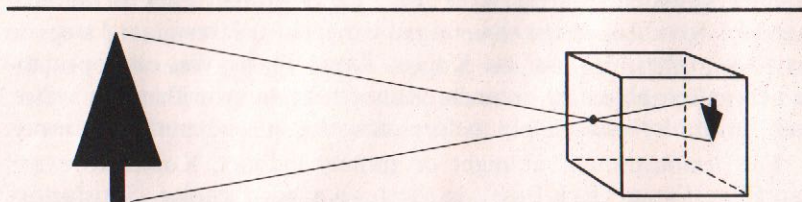

FIGURE 8
A. Light travels in essentially straight lines. Light from a point at the top of the subject goes through the pinhole to form a point of light (actually a small circle) at the bottom of the image. The reverse is true for light from the bottom of the subject. (See Figure 8.)